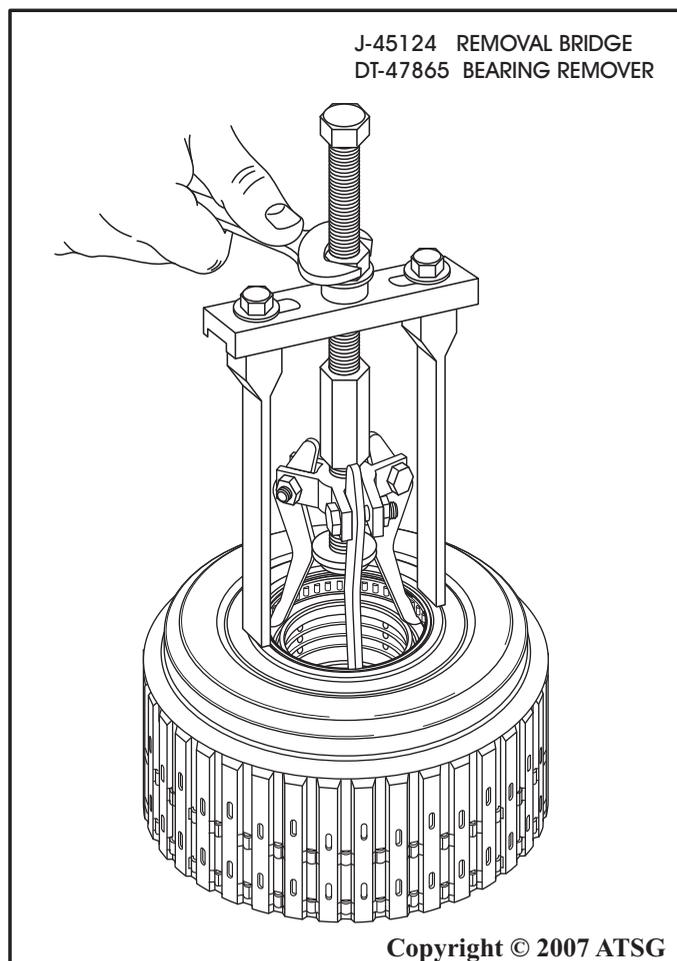

Figure 89
5. Remove and discard the caged roller bearing with the puller shown in Figure 89.